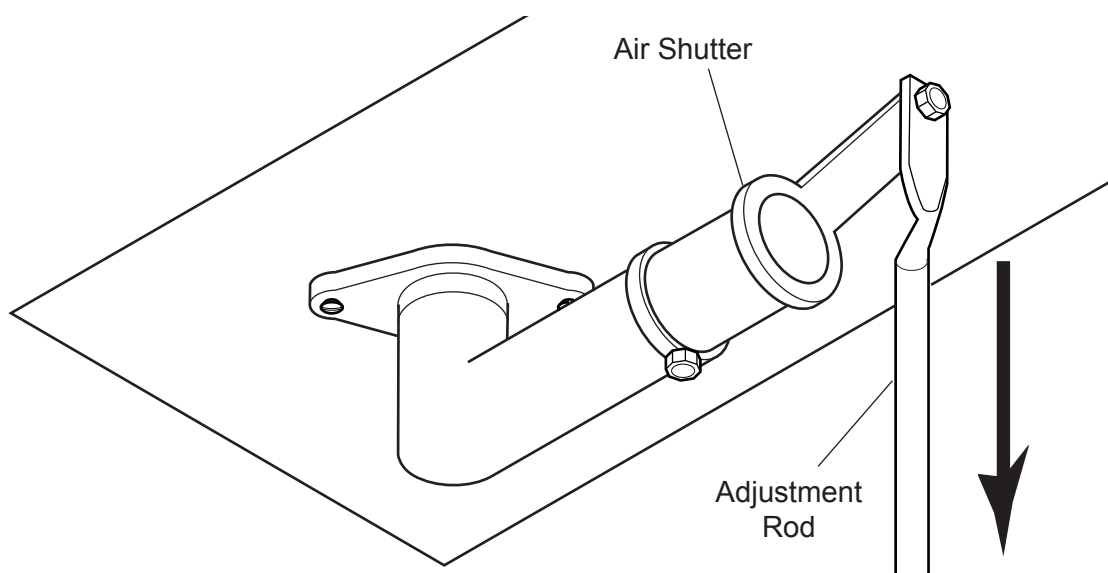

Figure 48 - Pull Adjustment Rod Down to Open Air Shutter
- To decrease air mixture, push up the adjustment rod located beneath the stove. This closes the shutter. Flames will be more yellow. *See Figure 48.*